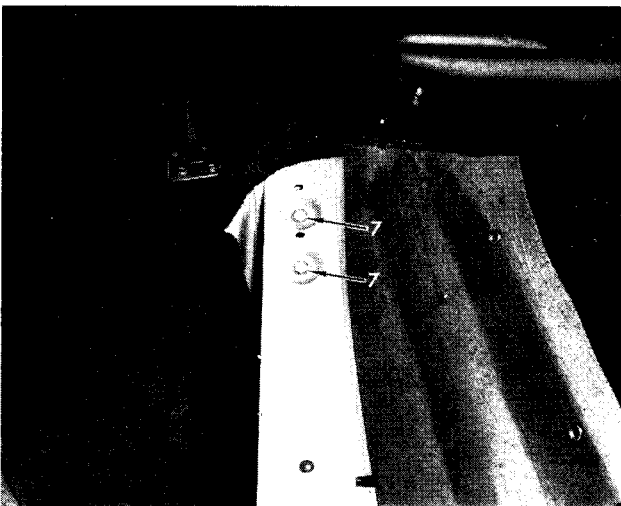

Fig. 5. Seat well mounting points
Four in line with the end of the propeller shaft (7), Fig. 5;